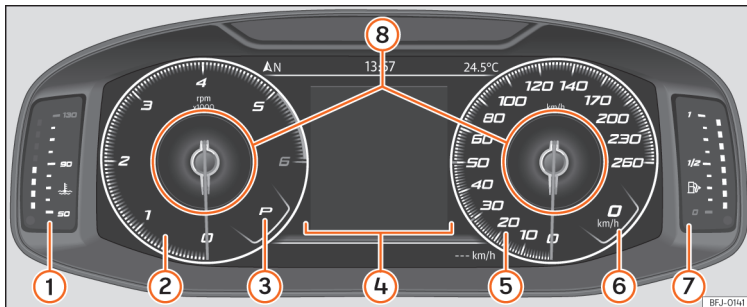

Fig. 118 SEAT Digital Cockpit on the instrument panel (classic view).
In *Classic View* and *Semicircular watches* it is possible to customise the information displayed under **Information Profiles** » **Fig. 118** ⑧.
»» Fig. 118.